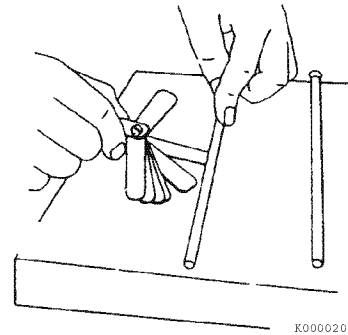

Figure 6-11
3. Use a feeler gauge to measure the gap (Figure 6-11). See *Push Rod* on page 6-5 for the service limit.